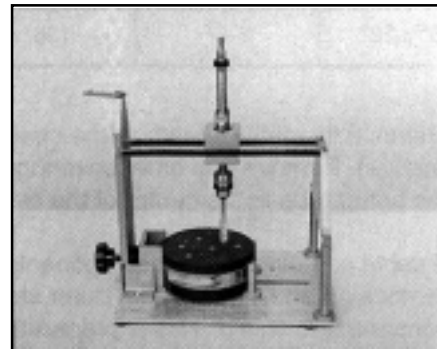

FIGURE 8 – BLADE POSITIONED
- Then, tighten the clamp screw and thumb screw on the bearing block. (Figure 8)